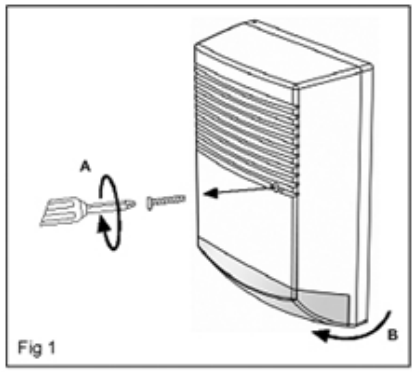
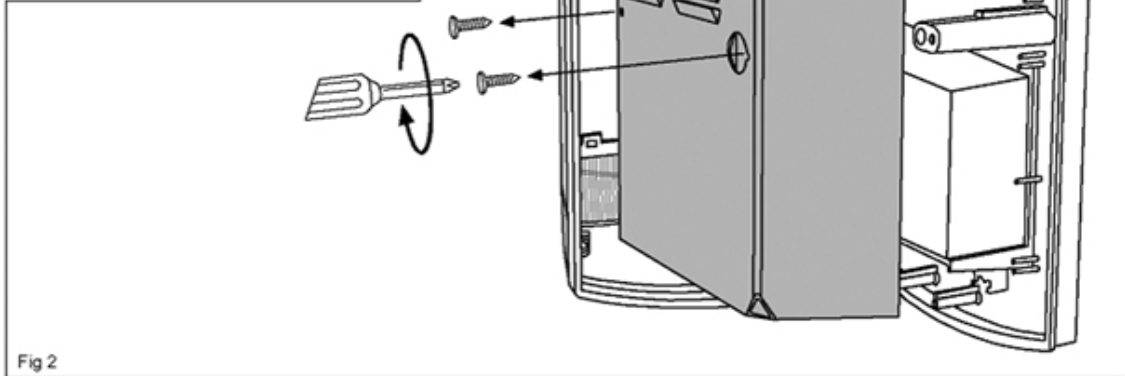

Fig 1
Fig 2
3. Open the siren housing(1 screw on the front),fig1 and remove the metal cover (2 screws),fig2